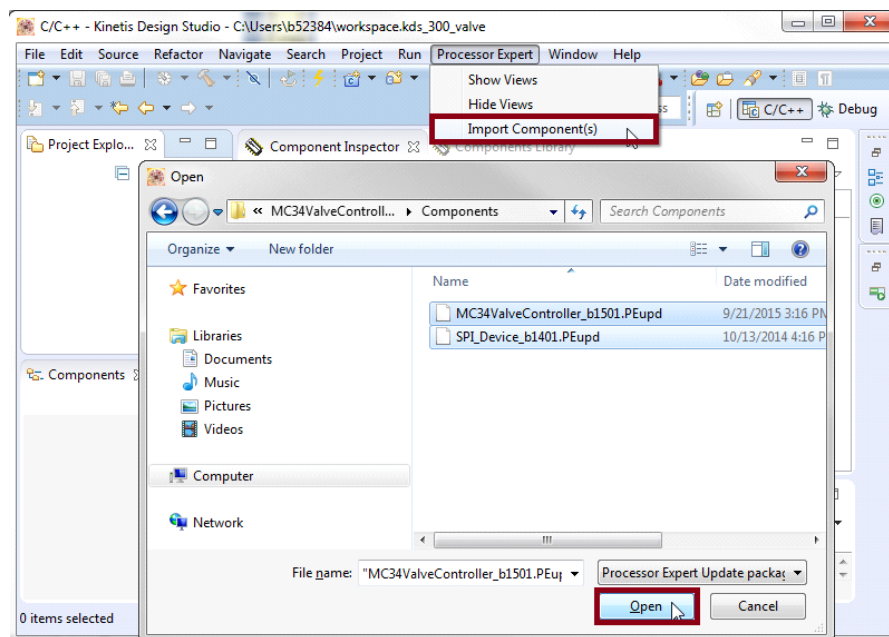

Figure 7. Import the MC34ValveController Components
2. In the pop-up window, locate the component file (.PEupd) in the folder MC34ValveController_PEx_SW\Component. Select **MC34ValveController_bxxxx.PEupd** and **SPI_Device_bxxxx.PEupd** files then click **Open** (see Figure 7).